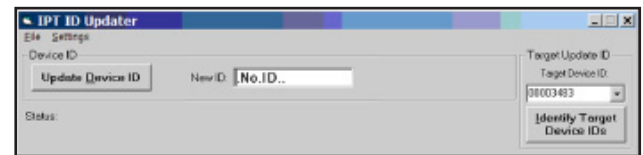

FIGURE 9
8. Type in the new ID. Use any combination of numbers and letters (upper and lower case) up to a maximum of eight (8) characters long. Click "Update Device ID." See FIGURE 9. If you type in too many characters, a RED Status screen will appear.
9. If the SEMS II REPEATER UNIT times-out, you will see the screen shown in FIGURE 9. Return to Step 3 to reactivate the Transmit Mode and proceed as above.